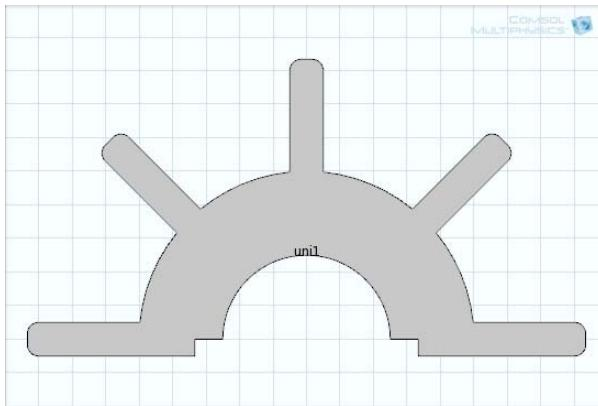
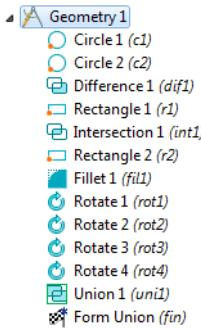

Figure 5-7: Final 2D object created in the Model Builder.
Figure 5-8: An example of a 2D geometry sequence.
- 4 Click the **Build All** button (). Click the **Zoom Extents** button (). The final geometry is shown in Figure 5-7.
Figure 5-8 shows the geometry sequence used to create Figure 5-7. All primitive objects and the fillet operation are parameterized through the radius of the inner and outer heat sink arcs, the length and thickness of the flanges, and the radius of the fillets. You can change the parameter values in the **Parameters** table or for any object to create alternative heat sink geometries. The sequence still remains and when you click the **Build All** button () a new geometry is created.